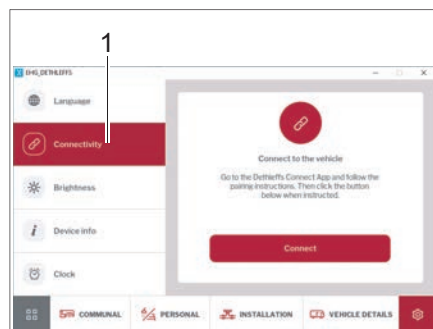

Fig. 266 Connection
- Click on the *Connection* (Fig. 266,1) button.